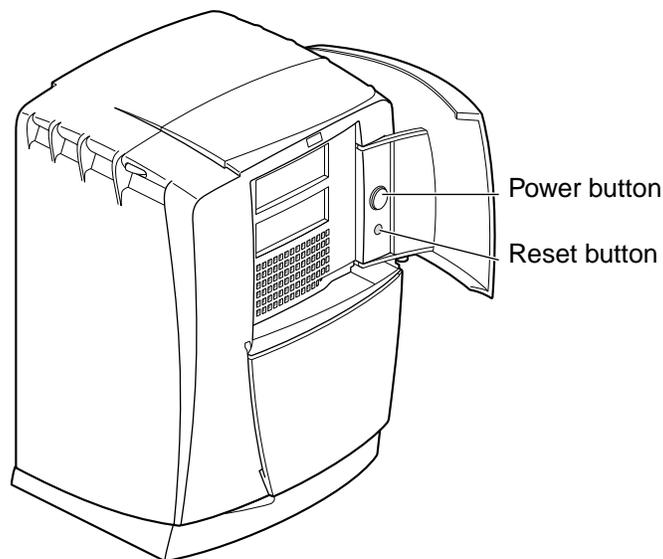

Figure 8-7 Pressing the Reset Button
1. Use a pen tip or an unwound paper clip to press the *Reset* button located on the front panel, as shown in Figure 8-7.